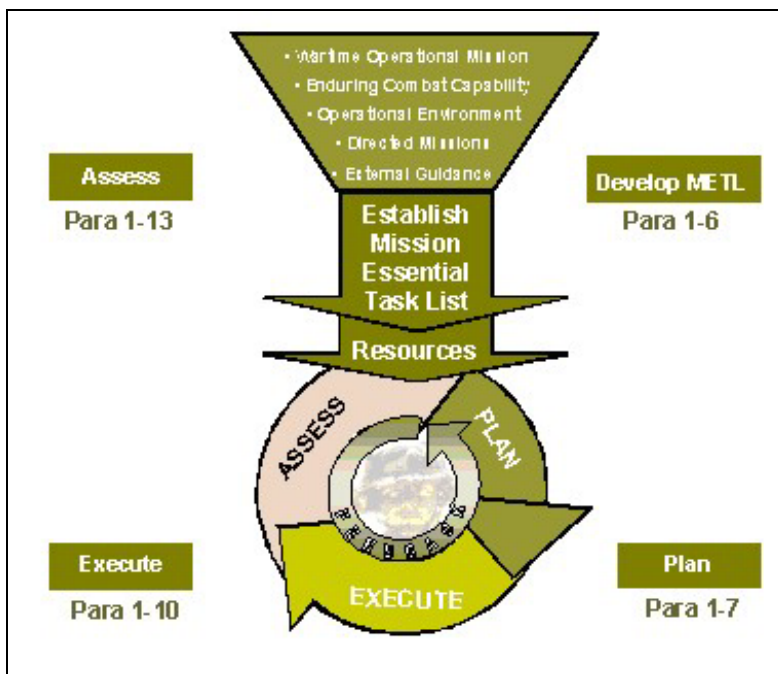

Figure 1-3. Army Training Management Cycle
(1) Battle focus is a concept used to derive peacetime training requirements from assigned and anticipated missions. The priority of training in units is to train to standard on the wartime mission. Battle focus guides the planning, preparation, execution, and assessment of each organization's training program to ensure its members train as they are going to fight. Battle focus is critical throughout the entire training process and is used by commanders to allocate resources for training based on wartime and operational mission requirements. Battle focus enables commanders and staffs at all echelons to structure a training program that copes with non-mission-related requirements while focusing on mission essential training activities. It is recognized that a unit cannot attain proficiency to standard on every task whether due to time or other resource constraints. However, commanders can achieve a successful training program by consciously focusing on a reduced number of critical tasks that are essential to mission accomplishment.
(2) A critical aspect of the battle focus concept is to understand the responsibility for and the linkage between the collective mission essential tasks and the individual tasks that support them. The commander and the ISG must jointly coordinate the collective mission essential tasks and individual training tasks on which the unit will concentrate its efforts during a given period. The ISG must select the specific individual tasks that support each collective task to be trained. Although NCOs have the primary role in training and sustaining individual soldier skills, officers at every echelon remain responsible for training to established standards during both individual and collective training. Battle focus is applied to all missions across the full spectrum of operations.
e. **Battle Focus Training Management.** The foundation of the training process is the Army Training Management Cycle (Figure 1-3). In the METL development process, training must be related to the organization's operational wartime mission and focus on METL tasks. Leaders develop the long-range, short-range, and near-term training plans to train for proficiency on METL tasks. After training plans are developed, units execute training by preparing, conducting, and recovering from training. The process continues with training evaluations that provide bottom-up input to organizational assessments. Organizational assessments provide necessary feedback to the senior commander that assist in preparing the training assessment.